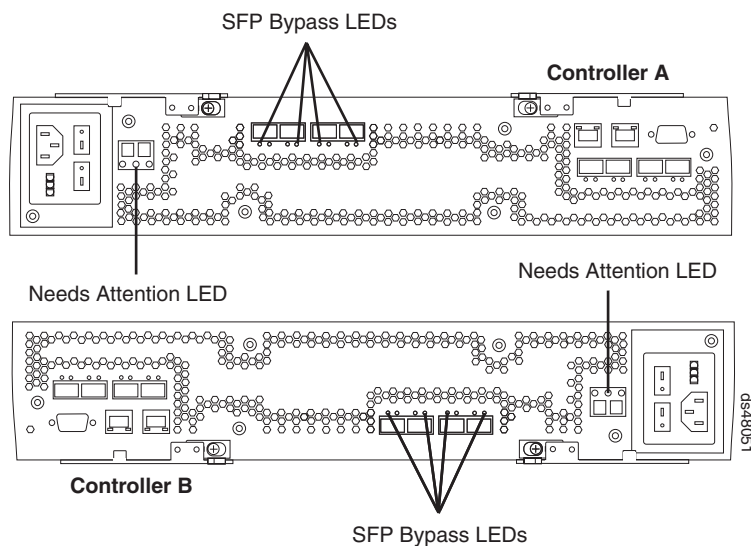

Figure 100. Needs Attention and SFP Model Bypass LEDs
3. Locate the failed SFP module by checking the SFP Bypass LED and Needs Attention LED on the controllers. If a fault is detected, the LEDs are lit. Figure 100 shows the location of the controller SFP Bypass LED and Needs Attention LED on the controller.